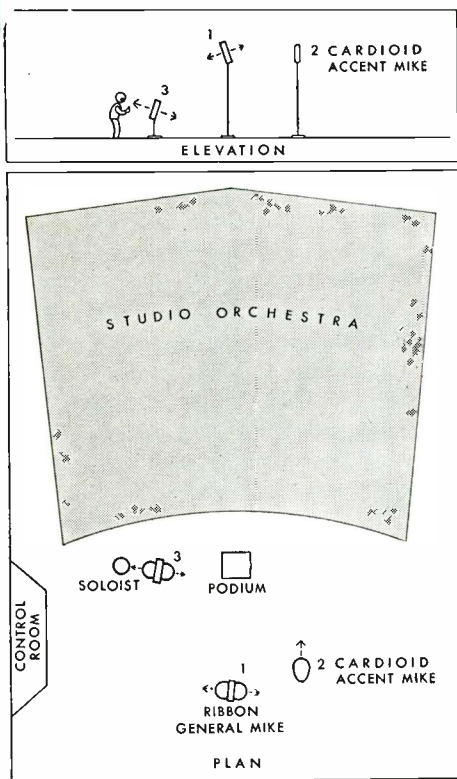

Figure 7—Plan and elevation of overcrowded studio.
(1) Place a bidirectional microphone, such as "1", Figure 7, with its insensitive direction pointing toward the orchestra. In practice this microphone will act as if G_p (see Equations 1 and 2) had a value of $\frac{1}{4}$ to $\frac{1}{3}$.